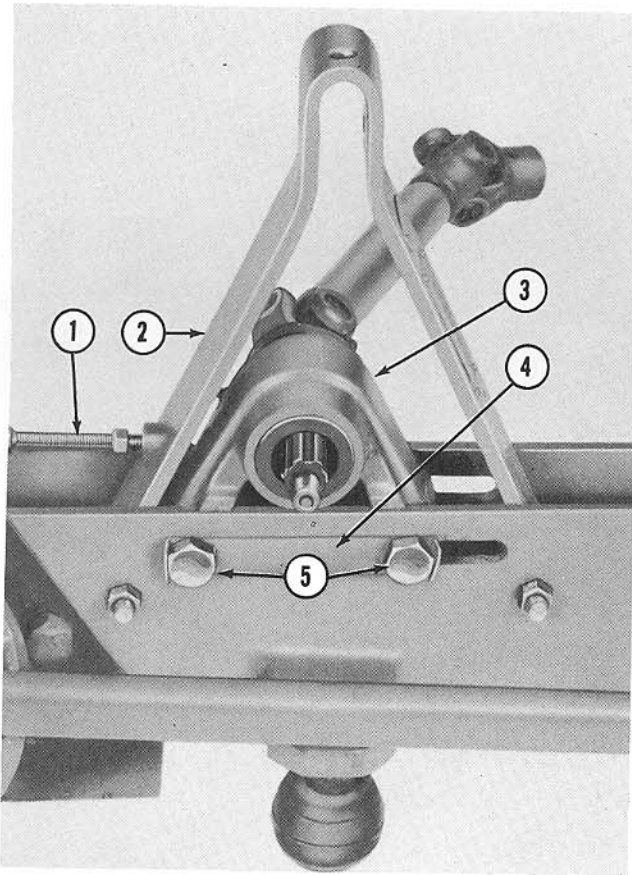
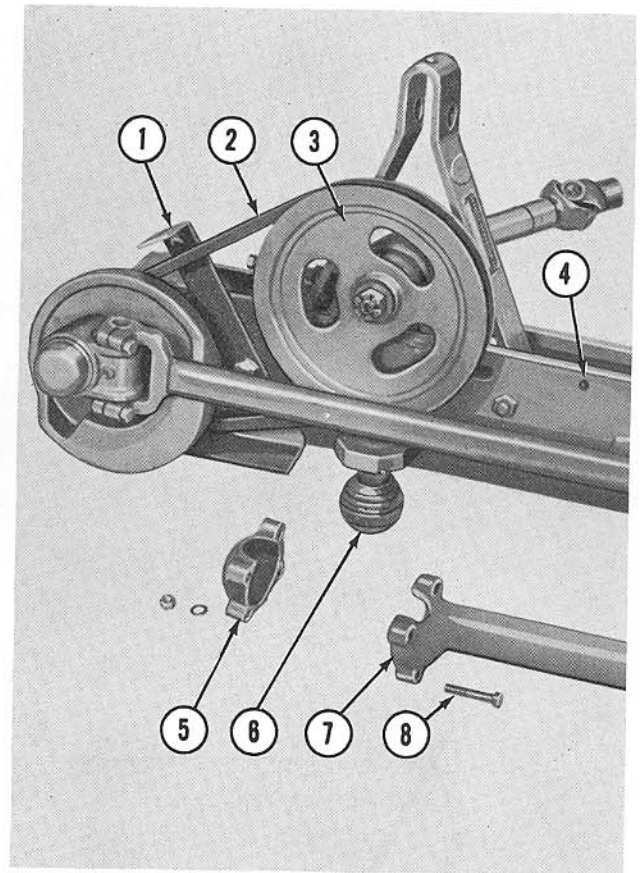

Figure 3
Figure 4
- Remove the drive pulley (3), Figure 4, from the drive shaft and loosen the belt adjusting bolt (1), Figure 3.
- Position the drive shaft bearing housing (3), Figure 3, in the main frame close to the left side of the A-frame (2) as shown.
- Attach the bearing housing to the main frame with the lock plate (4), Figure 3, and the two $\frac{5}{8}$ " x 4" bolts (5), flatwashers, lockwashers and nuts provided. Do not secure at this time.
- Reattach the drive pulley (3), Figure 4, to the splined end of the drive shaft and secure with the cork seal, flatwasher and nut. Back the nut off $\frac{1}{6}$ turn and secure with the cotter pin provided.
- Slide the V-belt (2), Figure 4, over the pitman arm and onto the pitman drive pulley and the drive shaft pulley (3) as shown. Turn the belt adjusting bolt (1), Figure 3, against the bearing housing (3) until there is $\frac{1}{4}$ " slack in the V-belt, midway between the pulleys. Tighten the nuts on the bolts (5), Figure 3, securely.
4. Lubricate the inside of the neoprene cup (6), Figure 4, with grease and place it over the steel ball on the mower frame as shown. Tilt the main frame assembly forward on the drive shaft and secure the drag bar (7), Figure 4, to the ball (6) with the drag bar outer cup (5) and four $\frac{3}{8}$ " x 2" bolts (8). Secure with the lockwashers and nuts provided.
- a. Position the belt guard over the flywheel pulley and the drive pulley (3), Figure 4, and align the holes in the guard with the holes in the bracket (1) and the hole (4) in the main frame.